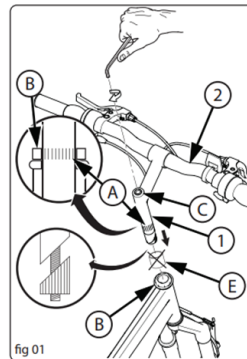

fig 01
**WARNING:** To prevent steering system damage and possible loss of control, the “MIN-IN” (minimum insertion) mark (A) on the stem must be below the top of the Locknut (B) (fig 01).
**NOTE:** Remove plastic Cap (E) from the end of the Stem (1)